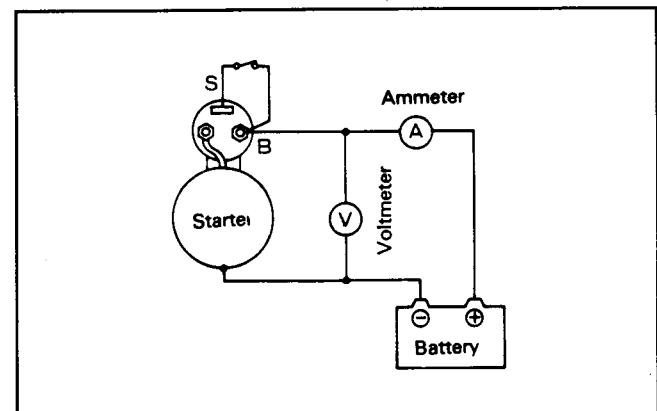

Figure 19
1. Connect a 12 volt battery, ammeter and voltmeter to the starter as shown (Fig. 19).